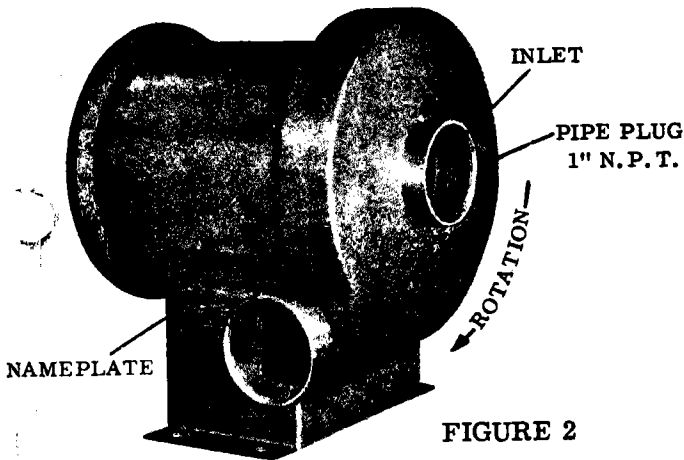

FIGURE 2
- 3.1 Before making any electrical connections, check the electrical characteristics of circuit against those of the motor to make certain they are the same. See Specifications on booster nameplate. (Refer FIGURE 2).
- 3.5 Check to make sure fan is rotating in the proper direction, i.e., with the blades traveling toward the outlet. This can be determined by removing the 1" pipe plug from the booster end plate, momentarily starting the motor and observing fan rotation. Replace plug after the fan rotation has been determined. (Refer FIGURE 2).